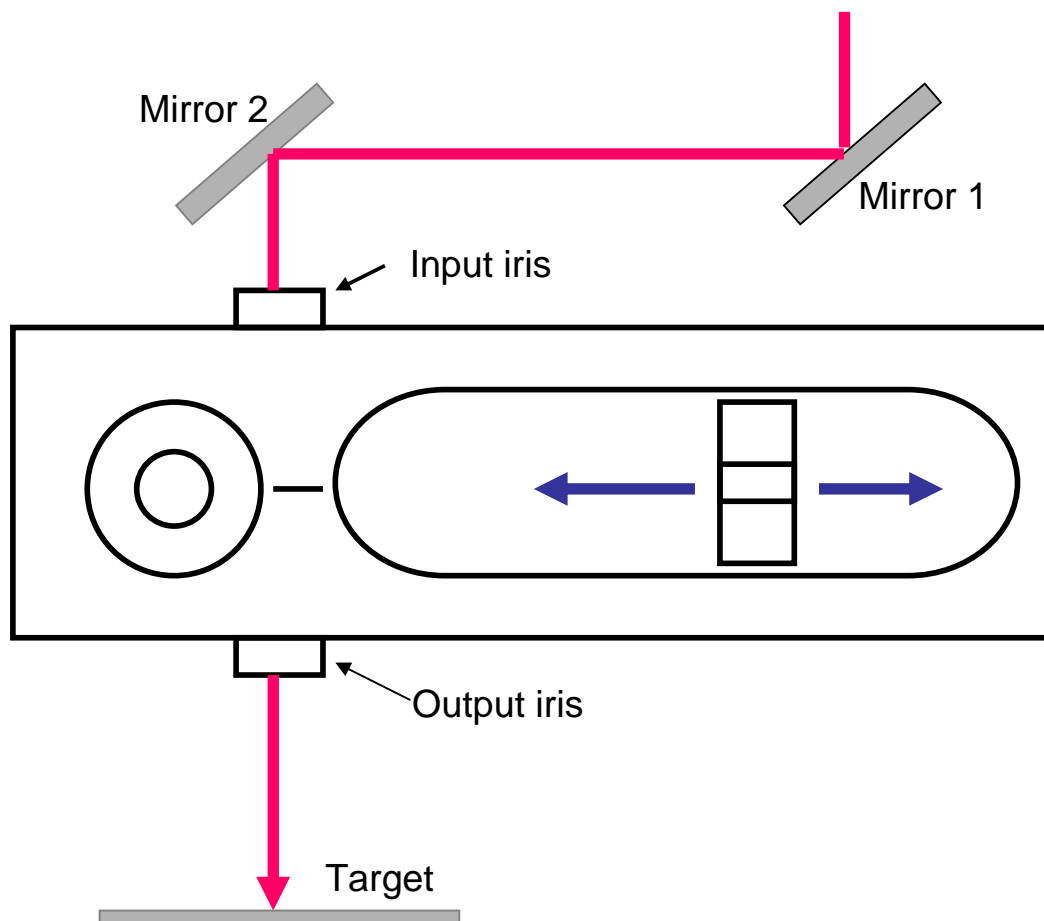

Fig. 2. Example of BOA alignment showing 2 turning mirrors before the BOA and a beam target after the BOA.
Also, you should place two broadband ultrafast (usually metal-coated) mirrors mounted in stable adjustable mounts in the beam path in front of the BOA so that the beam can be "walked" into proper alignment through the BOA. (see Fig. 2)
2. If the beam exiting the BOA moves vertically when the corner-cube slider is translated, a fine tweak on the vertical axis of steering mirror 2 (Fig. 2) can correct this movement.
3. If the beam exiting the BOA moves horizontally when the corner cube slider is translated, a fine tweak on the horizontal axis of steering mirror 2 (Fig. 2) can correct this movement.